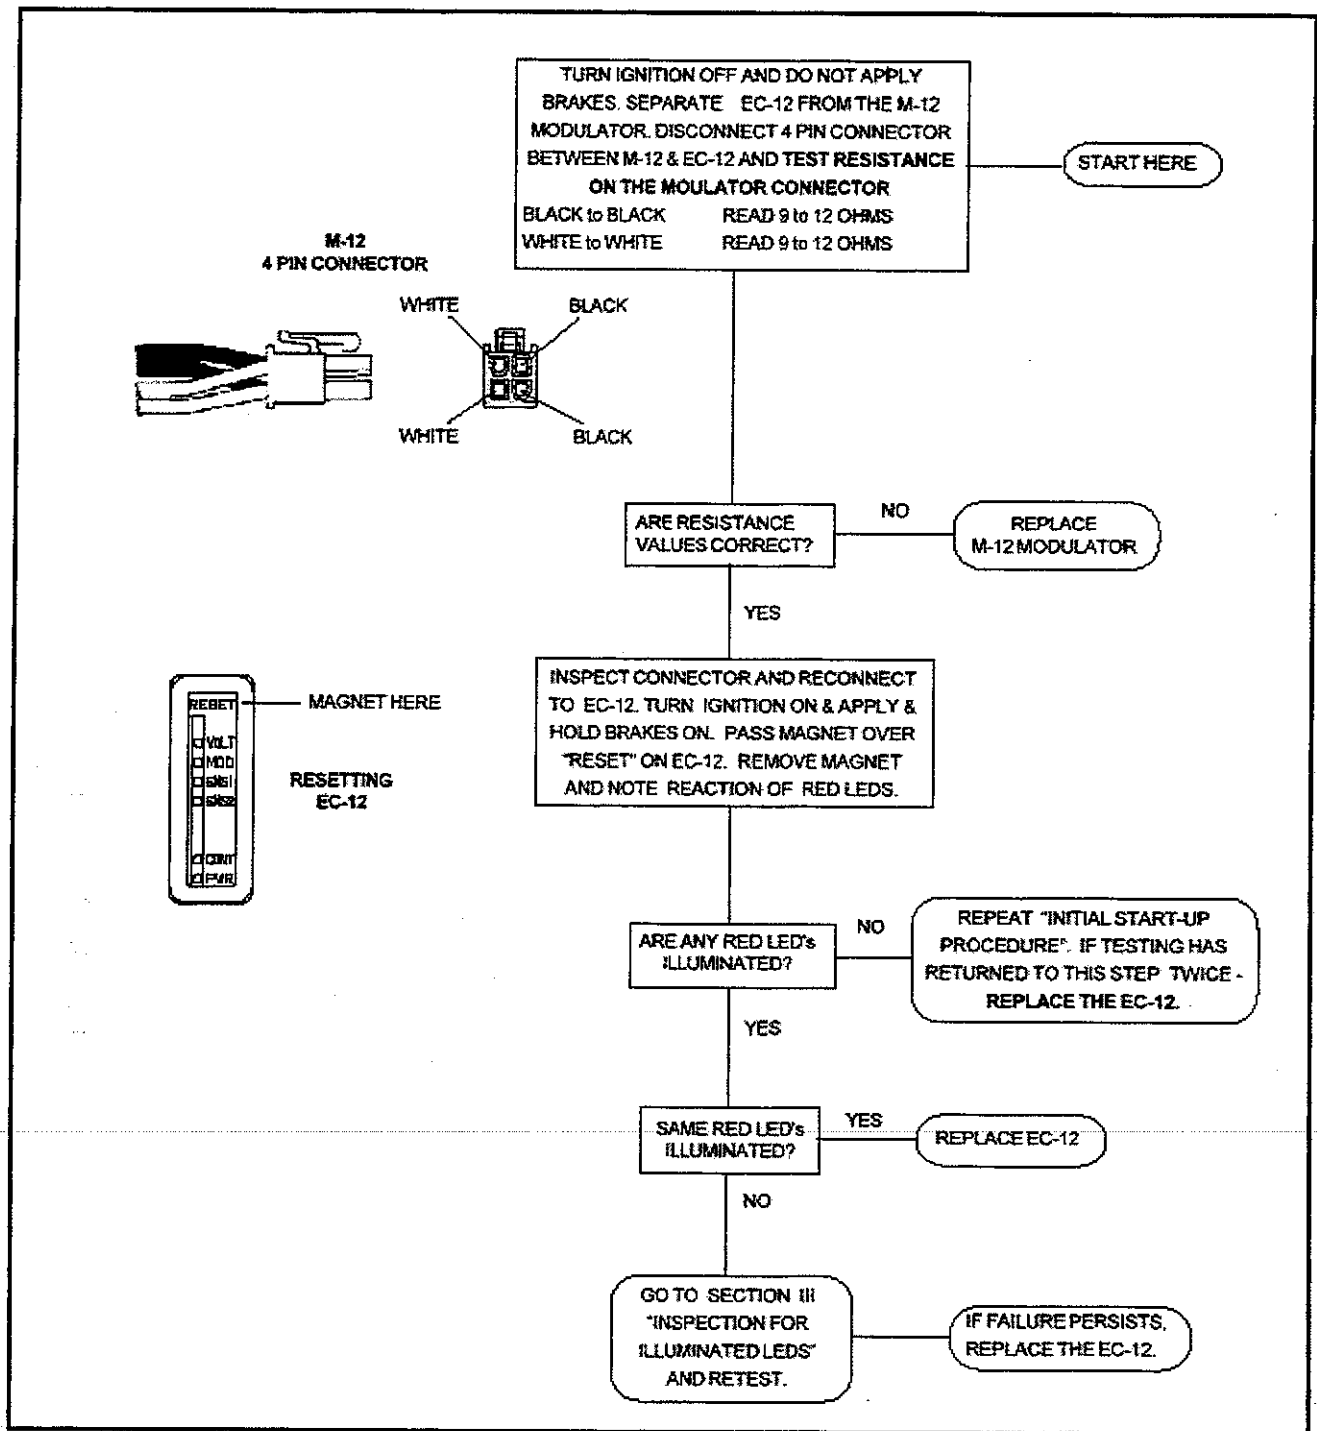

Figure 17—Testing the Modulator
- See Figure 17—Testing for Power to the EC-12